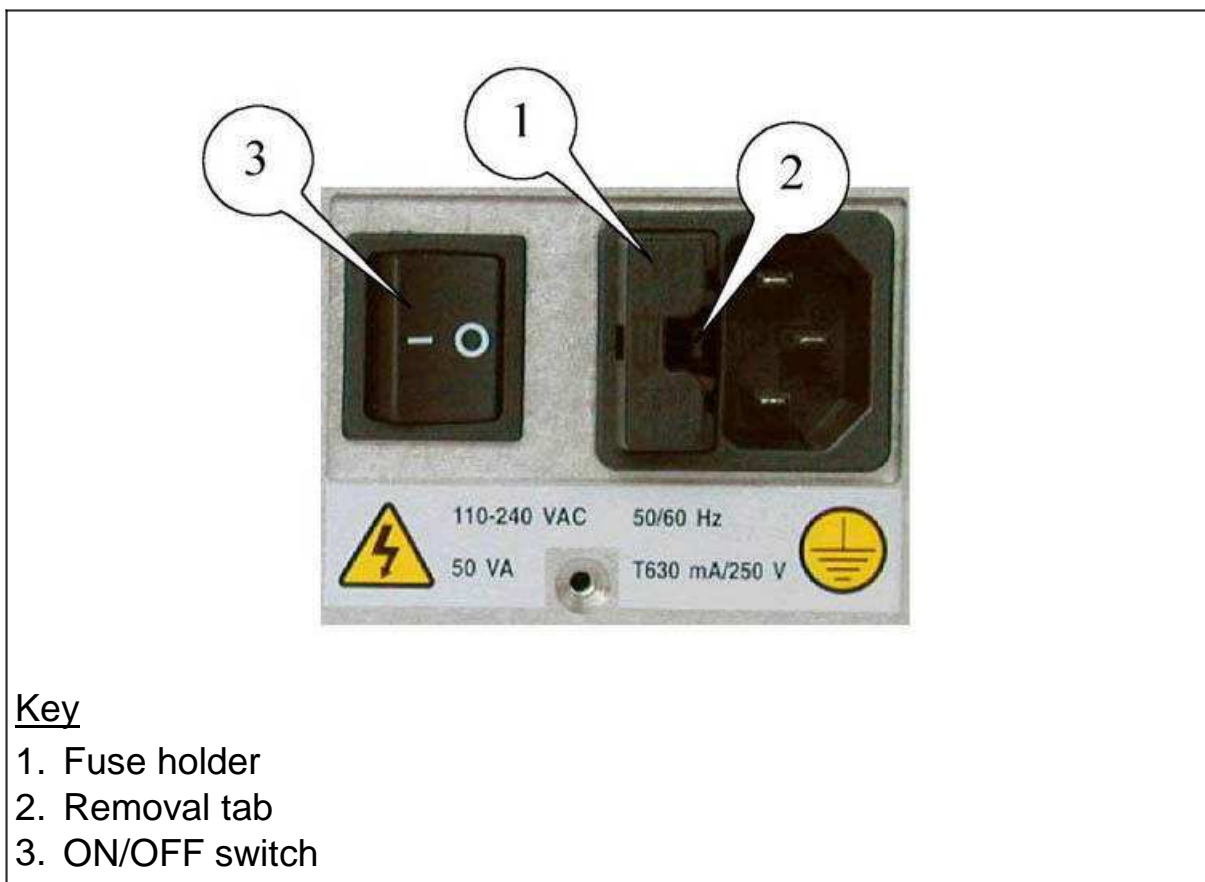

Figure 9.1 - Fuse (log0126.jpg)
- ✓ Refer to Figure 9.1 on page 1-123